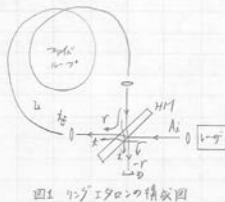

図1 レゾナタの構成図
* K. Hotate (1997) "Future Evolution of Fiber Optic Gyros," *Optical Review* 4(1A): 28-34, p.29, Fig.1.
"Partially digital-feedback scheme and evaluation of optical Kerr-effect induced bias in optical passive ring-resonator gyro," *Photonics Technology Letters* 3(7): 679-681, p.679, Fig.1.